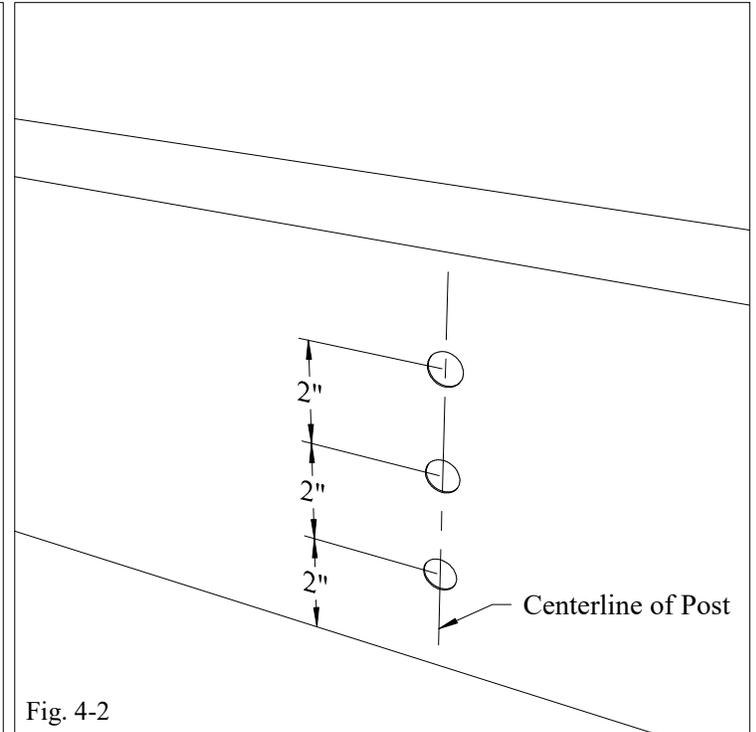

Fig. 4-2
- Drill (3) 5/8" holes through the outer face of the headers at each post location in the pattern shown (see Fig. 4-2).